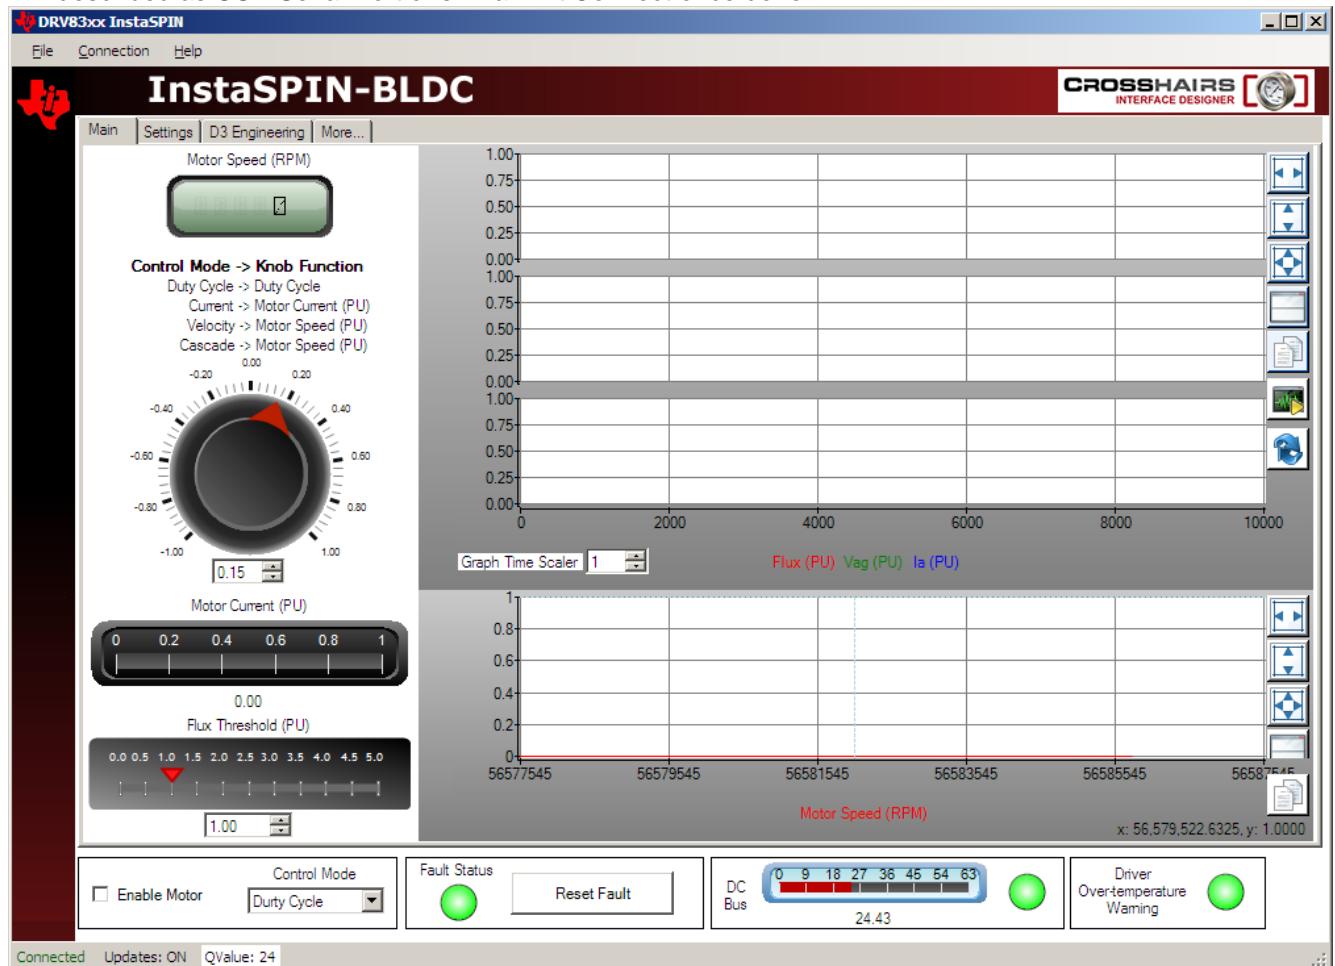

Fig3: GUI Startup
- 2) Browse to and double click on BLDC_Int_GUI_DRV83xxv*.exe The GUI window should pop up (Fig 3).